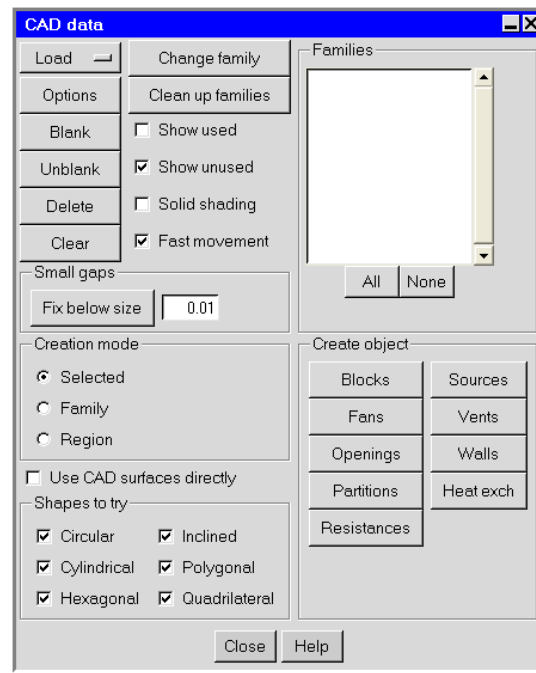
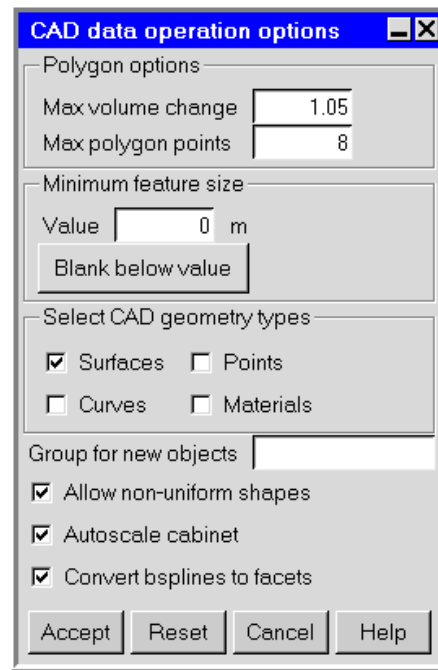

Figure 4.2.1: The CAD data Panel
Figure 4.2.2: The CAD data operation options Panel
All of these files can be imported using the **File**→**Import** menu. Tetin and IGES/STEP files can also be imported using the **CAD data** panel (Figure 4.2.1).
The utilities you will use to read the IGES, STEP, or tetin file into Airpak and convert the CAD geometry into Airpak objects are located in the CAD data panel (Figure 4.2.1) and the CAD data operation options panel (Figure 4.2.2). To open the CAD data menu, select CAD data in the Model menu.
Airpak to scale the room after the CAD geometry has been imported. To open the CAD data operation options panel (Figure 4.2.2), click **Options** in the **CAD data** panel.
- (b) To specify that Airpak should resize the room so that it is exactly the size required to fit the CAD geometry (and any Airpak objects in your model) when it has been imported, keep the default **Autoscale room** option turned on in the CAD data operation options panel (Figure 4.2.2).
- Use the CAD data panel (Figure 4.2.1).
1. Click **Change family** in the CAD data panel (Figure 4.2.1).
1. Specify options related to the conversion of the CAD geometry in the **CAD data** panel (Figure 4.2.1).